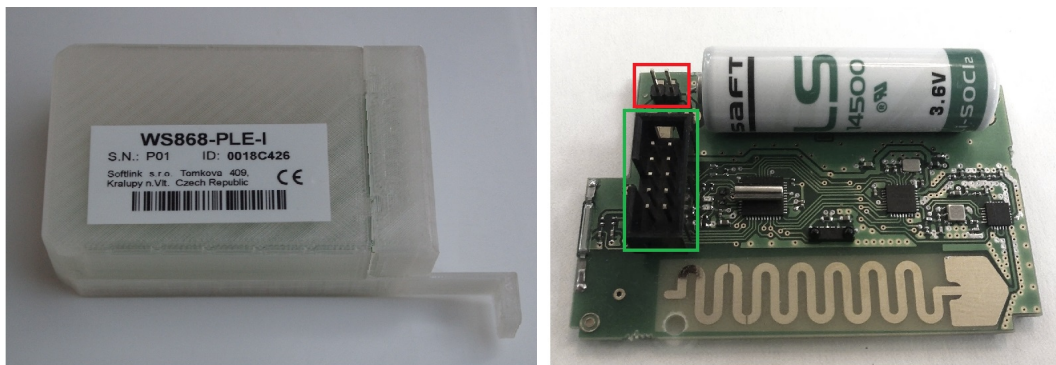

Figure 17: Detailed view of WS868-PLE-I module
Both parts are screwed together and there is no reason to dismantle the casing during normal operation. View of assembled module and view of module printed circuit board are displayed in the figure 17. View of WS868-PLE-I module mounted to gas-meter is displayed in the figure 1.
- switch-on battery by putting of shortening connector onto shortening pins. The pins are placed on the PCB beside the battery lead (in the figure 17 marked by red rectangle);
- connect the cable of USB-CMOS converter to the module configuration connector (in the figure 17 marked by green rectangle) and perform setting of module as described in section 3 „Module configuration”. Alternatively, the configuration can be performed after mounting to gas-meter by using of optical converter (see paragraph 3.6).